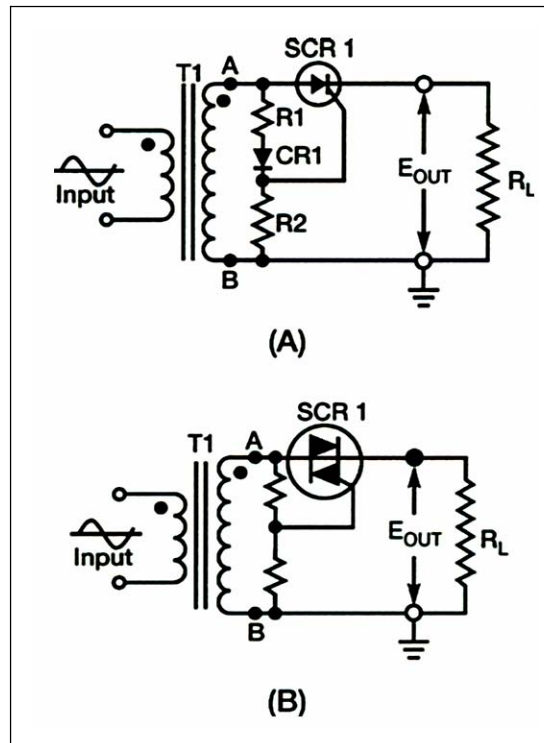

Figure 3-25. Comparison of SCR and Triac Circuits
3-49. Figure 3-25 shows the basic circuit, which shows the difference in current control between the SCR and the triac by comparing their operation. In the circuit shown in Figure 3-25, view (A), the SCR is connected in the familiar half-wave arrangement. Current will flow through the load resistor (R_L) for one alternation of each input cycle. Diode CR1 is necessary to ensure a positive trigger voltage. In the circuit shown in Figure 3-25, view (B), with the triac inserted in the place of the SCR, current flows through the load resistor during both alternations of the input cycle. Since either alternation will trigger the gate of the triac, CR1 is not required in the circuit.